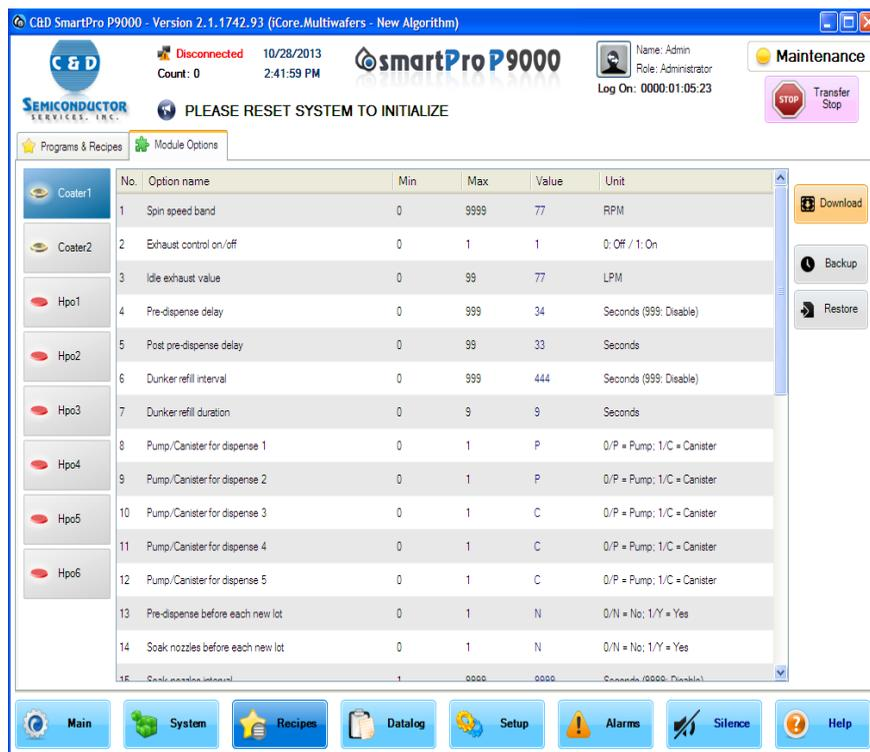

FIGURE 3-37: Modifying the value of an option
2. Identify the option of interest, highlight its value, override it with a new one, and click Save. See Figure 3-37.